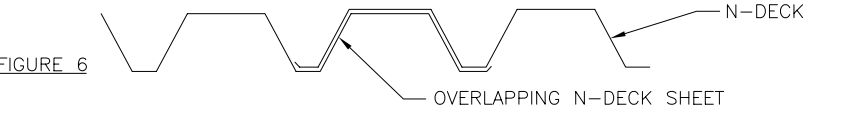
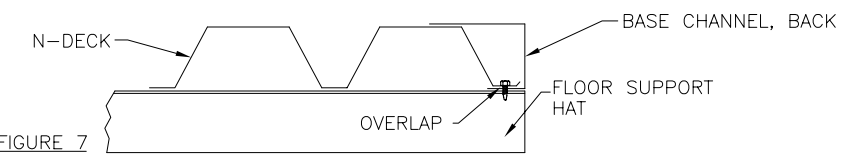

FIGURE 6
FIGURE 7
PLACE THE REMAINING SHEETS OF N-DECK ON THE FLOOR SUPPORTS. OVERLAP ONE SHEET (SEE FIG. 6). SQUARE DECK SHEETS TO SUPPORTS; KEEPING ENDS EVEN WITH BOTH EDGES OF OUTSIDE SUPPORT HATS. PLACE BACK SHEET UNDER "BASE CHANNEL BACK" (SEE FIG 7). NOW ATTACH DECK SHEETS TO FLOOR SUPPORTS WITH #14 1/4"x 3/4" SELF DRILLING SCREWS. USE (8) SCREWS AT EACH SUPPORT HAT FOR EACH PIECE OF DECK, OR (2) SCREWS AT ALL LOW CORRUGATION SURFACES (LOW RIBS) OF N-DECK.